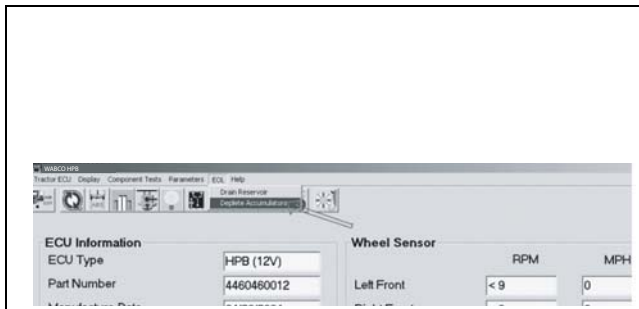
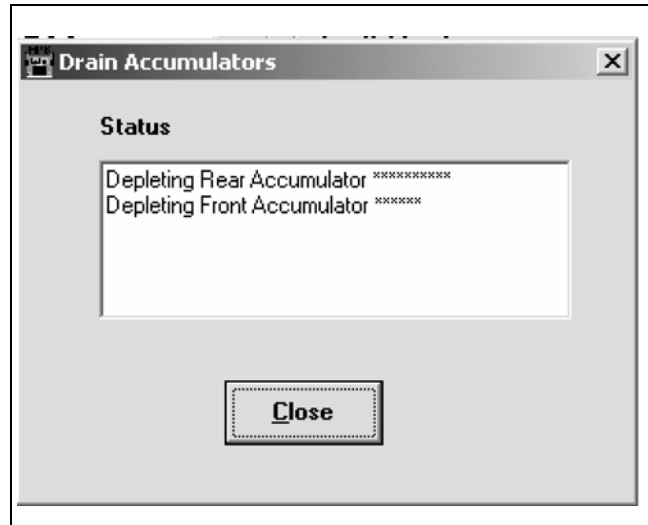

Figure 7
Figure 8
- After the accumulators have fully charged, approximately 2100 psi (145 bar), deplete the system pressure. Under the **EOL** menu on the HPB screen, select **Deplete Accumulators**. Figure 7 and Figure 8.